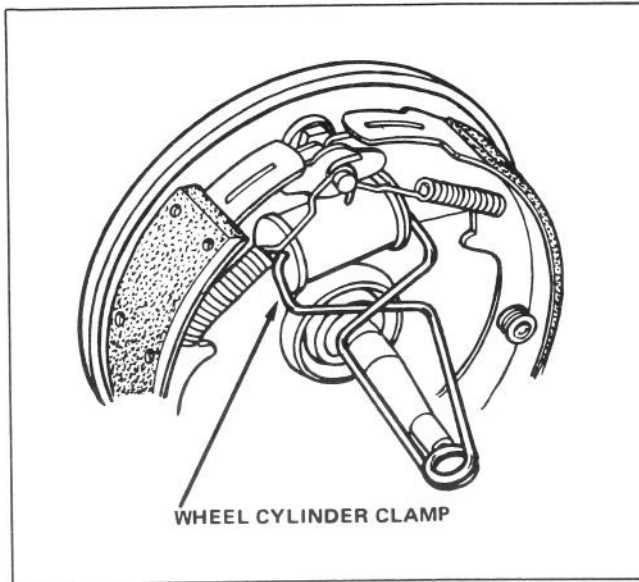

Figure 16. Using Wheel Cylinder Clamp
3. Install wheel cylinder clamp (Figure 16) to hold wheel cylinder pistons in place.